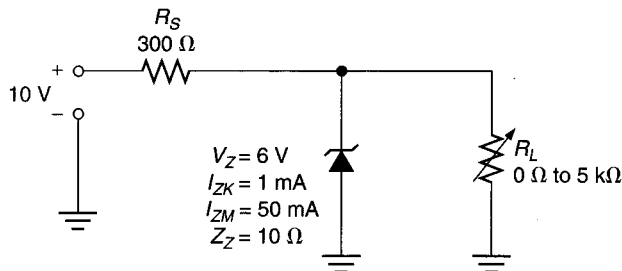

FIGURE 3.61
39. For the circuit shown in Figure 3.61, determine the total circuit current.
40. For the circuit shown in Figure 3.61, determine the value of  $I_L$  for  $R_L = 2\text{ k}\Omega$ .
41. For the circuit shown in Figure 3.61, determine the value of  $I_Z$  for  $R_L = 2\text{ k}\Omega$ .
42. For the circuit shown in Figure 3.61, determine the value of  $I_Z$  for  $R_L = 3\text{ k}\Omega$ .
43. For the circuit shown in Figure 3.61, determine the minimum allowable value of  $R_L$ .